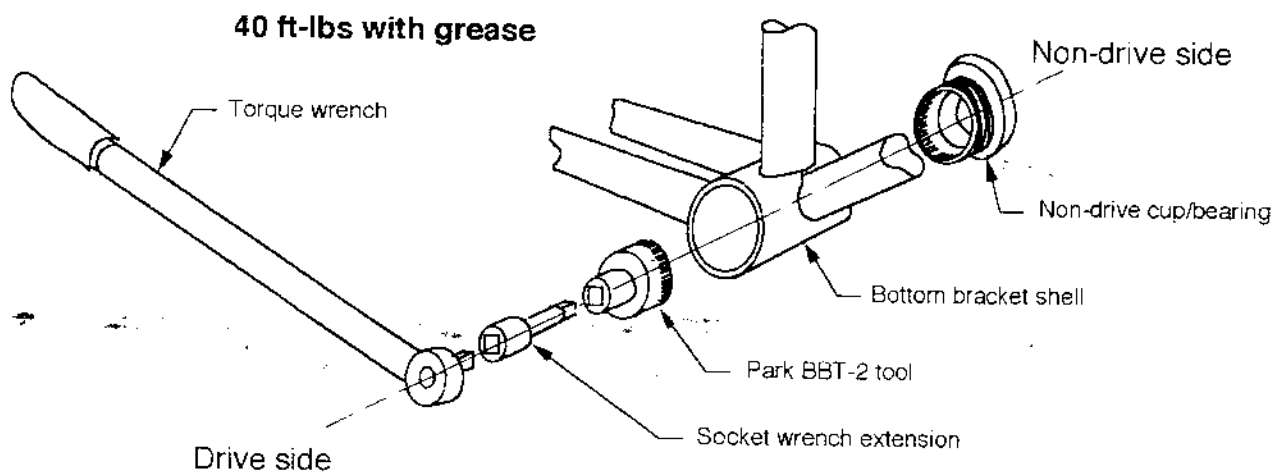

Fig. 1 Installation of Non-drive cup/bearing
2. Non-drive cup/bearing - Hand install the non-drive cup/bearing in the non-drive side of the bottom bracket shell. From the drive side, slide the Park BBT-2 tool (with the torque wrench and extension attached) through the bottom bracket shell. Engage the non-drive cup/bearing and tighten to 40 ft-lbs. (See Figure 1).